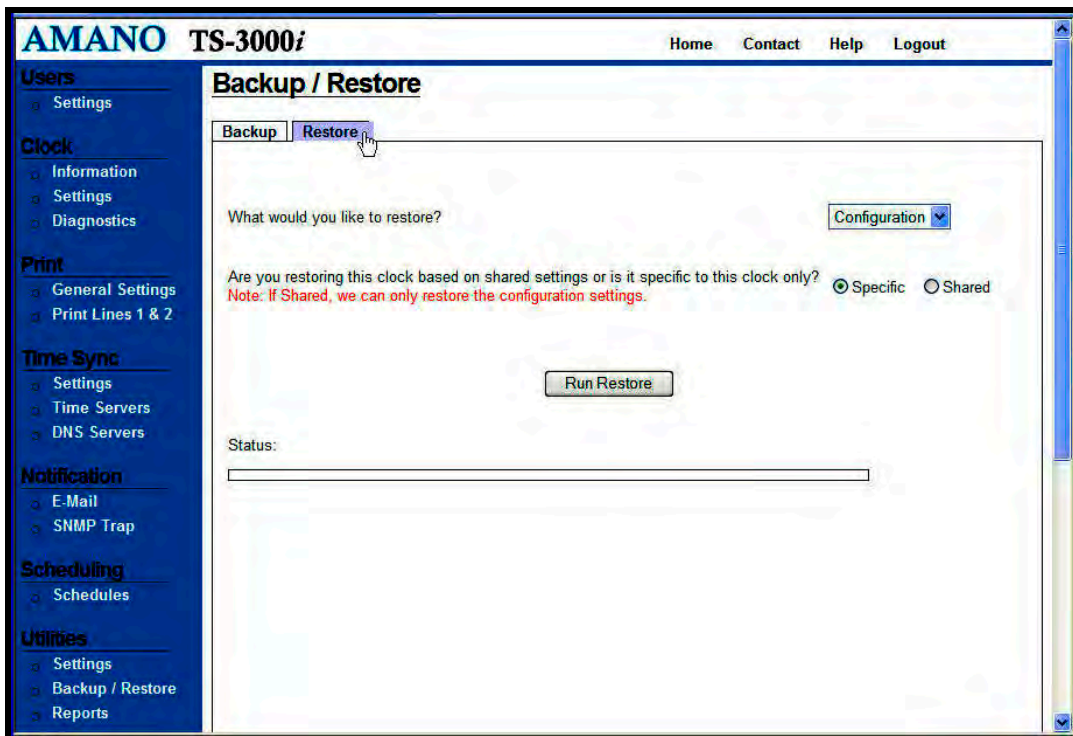

Figure 4-26: Restore Utility
- Step 1.** From the Backup/Restore link under Utilities, click on the **Restore** tab to perform a restore for the TS-3000i (see Figure 4-26).